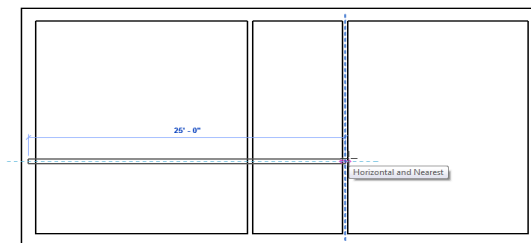

Figure 3-61 Sketching the third interior wall segment
4. Press SHIFT and move the cursor horizontally toward the right until it reaches the first vertical interior wall. When the **Horizontal and Nearest** object snap symbol appears, click to specify the location of the endpoint of the third interior wall, as shown in Figure 3-61, the wall segment is created.